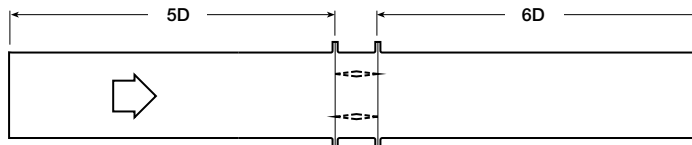

Figure 5.3
**Figure 5.3** Illustrates a fully ducted damper. This configuration has the lowest pressure drop of the three test configurations because entrance and exit losses are minimized by straight duct runs upstream and downstream of the damper.
AMCA Figure 5.3